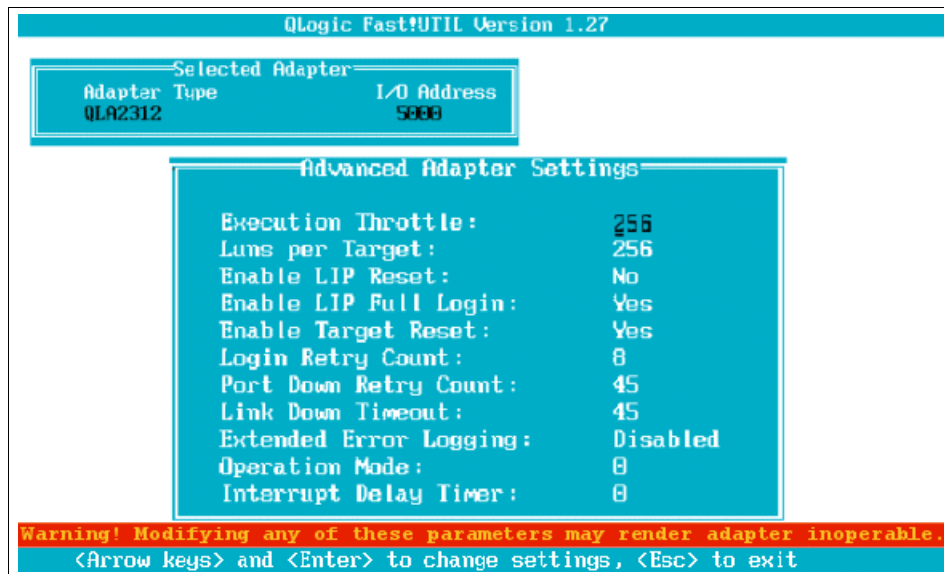

Figure 4-5 Advanced Adapter Settings window
7. Verify and confirm that the following NVRAM definitions are applied on the HBA by selecting the Advance Adapter Settings, as shown in Figure 4-5.